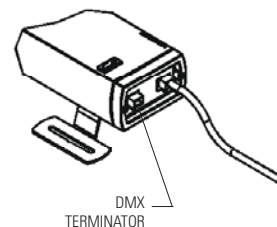

FIG.17
3. For signal termination, connect a DMX signal terminator to the data out of the last luminaire in the network. (sold separately). (Fig.17)